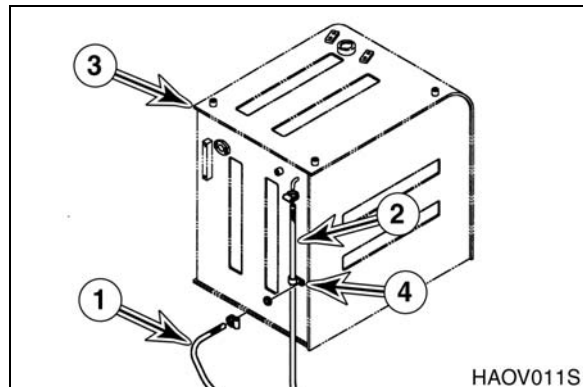

Figure 16
9. Connect as tagged, fuel supply line (1, Figure 16) and fuel return line (2) to fuel tank (3).
10. Install clamp (4, Figure 16) to hold fuel return line (2) to tank (3).